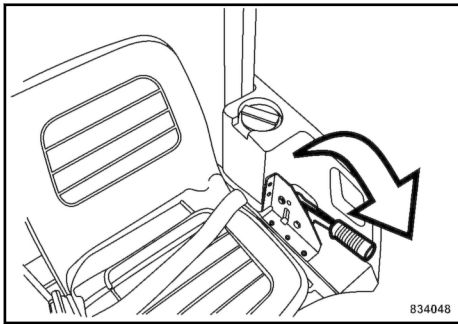

Fig. 271
1. Release the parking brake ↪ Fig. 271.